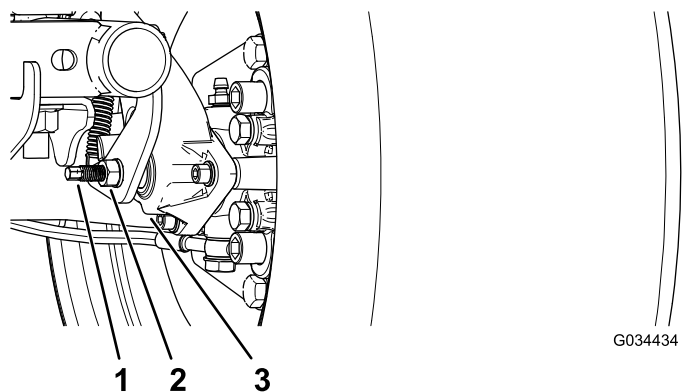

Figure 49
3. Using 2 wrenches, hold the adjusting post on the caliper in place with 1 wrench, and loosen the jam nut 1/4 turn with the other wrench (Figure 49).
4. While holding the adjusting post and the jam nut in place, turn the adjusting post in to tighten (Figure 49).
5. While holding the adjusting post and the jam nut in place, back off 1/4 turn (Figure 49).
6. While holding the adjusting post and the jam nut in place, tighten the jam nut (Figure 49).